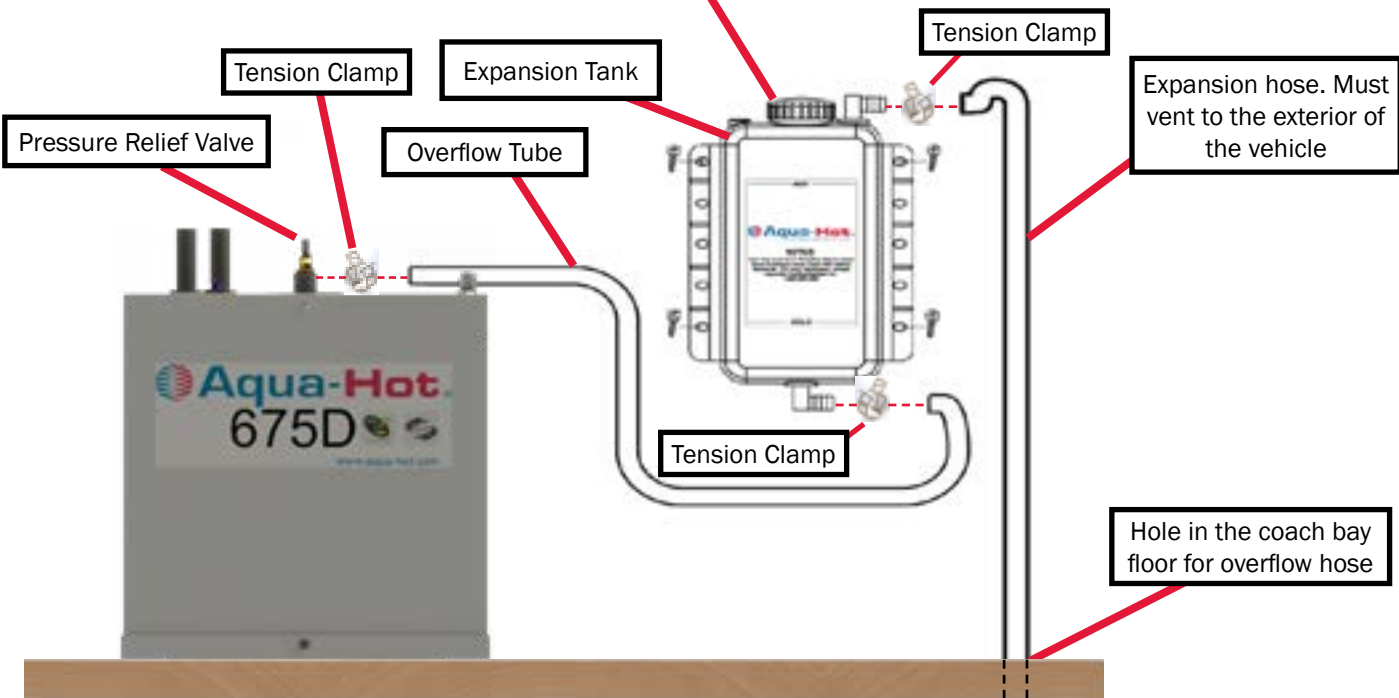

Figure 15
1. Mount the expansion tank as illustrated in Figure 15. The overflow tube should have an incline.
2. Connect and clamp the overflow tube from the expansion tank to the Aqua-Hot's expansion tank connection as shown in Figure 15.